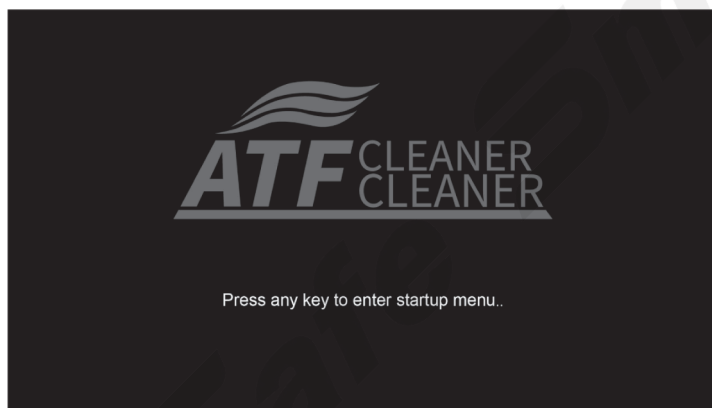

Fig.6
1. Startup interface: (As shown in Fig.6)